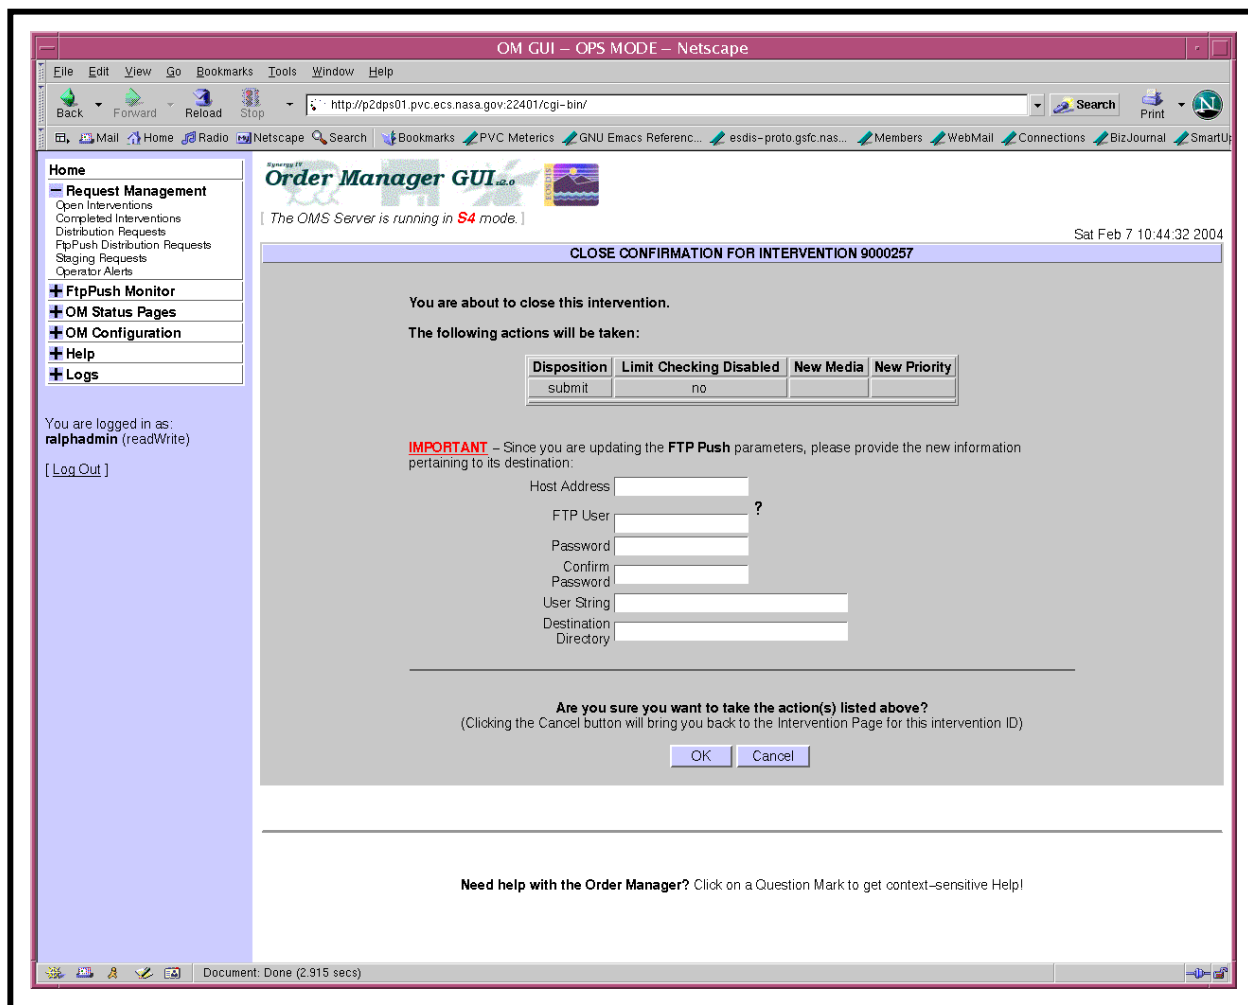

Figure 27. Close Confirmation (CLOSE CONFIRMATION FOR INTERVENTION X) Page (FTP Push)
- A **Close Confirmation** page (Figure 27) is displayed.
- **Cancel** – to dismiss the warning dialogue box and return to the **Close Confirmation** page (Figure 27).